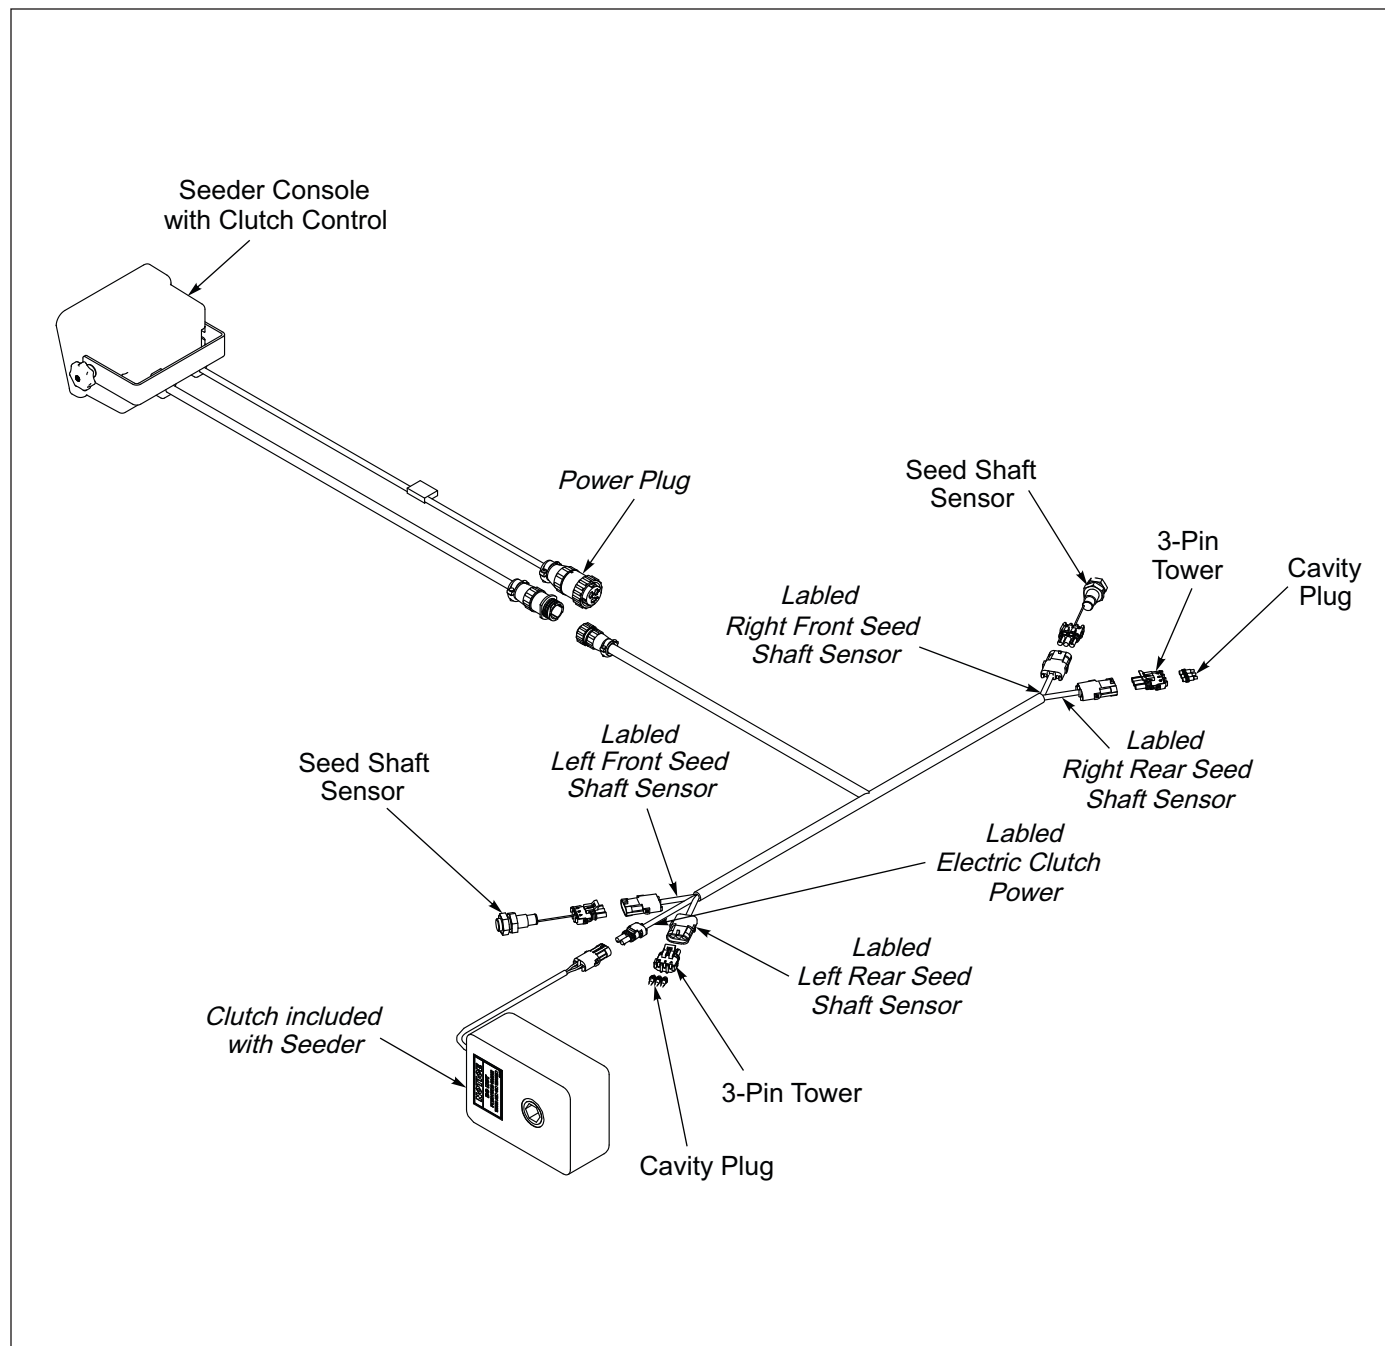

Figure 2-35: Console w/Clutch Control Electrical Schematic
5. On left side connect plug labeled "Electric Clutch Power" to the Electric Clutch lead. **See Figure 2-35.**